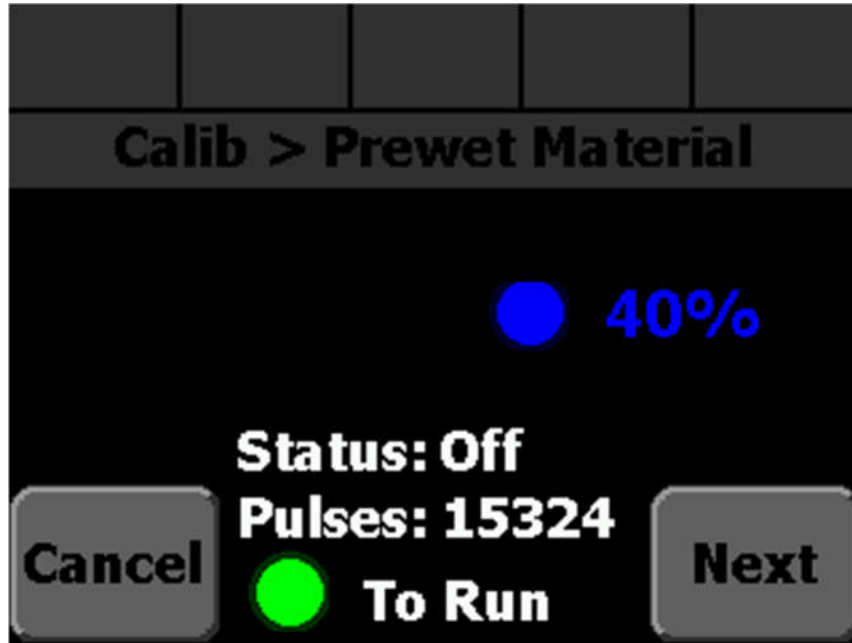

Figure 8: Prewet AutoCal Screen after running
- STEP 11: Press the green, Standby knob to stop dispensing liquid. The status should change to "Off", as shown in Figure 8. If your system is an Open Loop system the pulses will be 0.